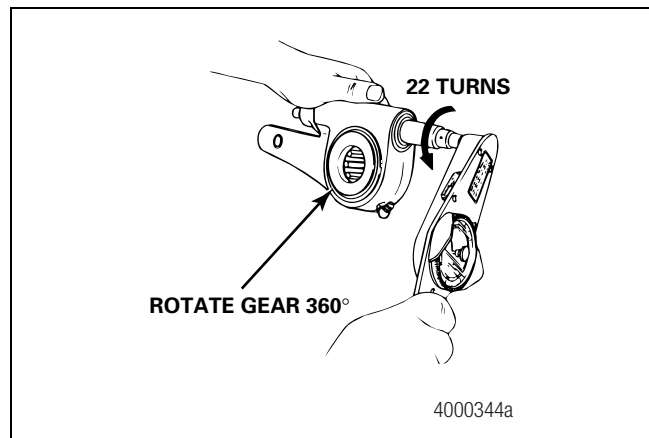

Figure 4.3
1. Use a lb-in torque wrench and turn the adjusting nut COUNTERCLOCKWISE (Figure 4.3) to rotate the gear 360 degrees, or 22 turns of the wrench, as you read the torque scale on the wrench. The value should be less than 25 lb-in (2.83 N•m) as you rotate the gear.